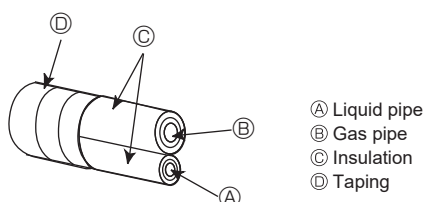
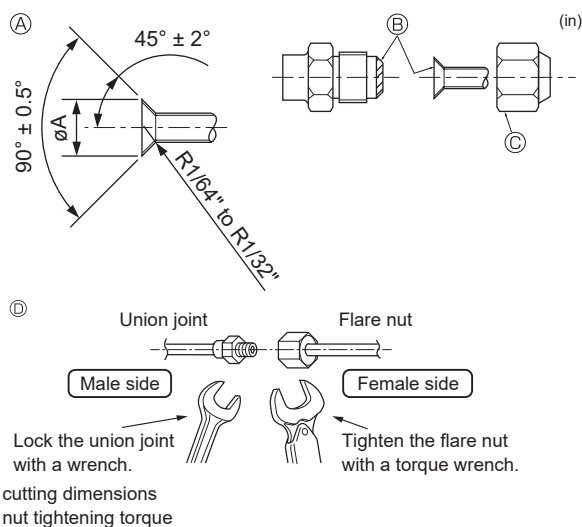

Fig. 4-5
Fig. 4-6
Ⓐ (Fig. 4-6)
4.3. Connecting pipes (Fig. 4-5) (Fig. 4-6)
[Fig. 4-5]
[Fig. 4-6]